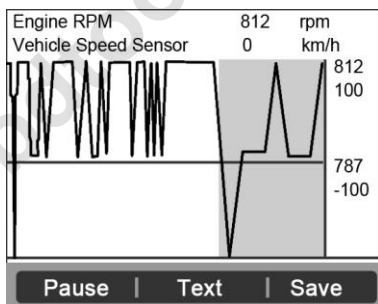

Figure 5.12
- If the “**Graphics**” on the bottom appears when a PID is highlighted, graphic information is available. Select **Graphics** to view graph. (Figure 5.12). PID name, current value, maximum and minimum values are displayed on the screen.